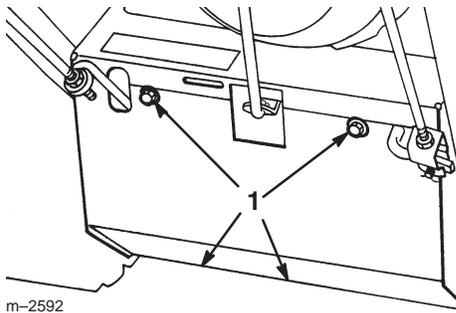

Figure 25
- 4. Remove the 4 flange-head bolts that secure the bottom cover to the frame and remove the cover (Fig. 25).
8. Remove the 4 flange-head bolts that secure the bottom cover to the frame and remove the cover (Fig. 25).
5. Remove the 4 flange-head bolts that secure the bottom cover and remove the cover (Fig. 25).